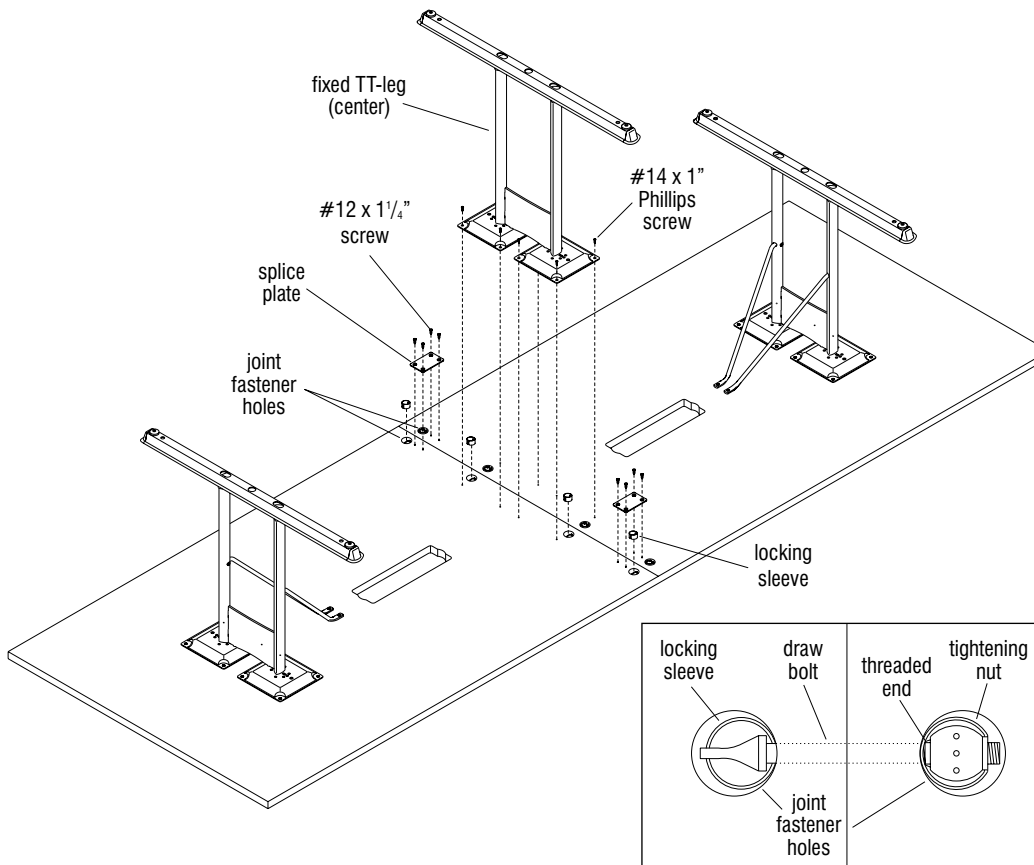

Figure 3
7. For the table top piece with just the end of the draw bolts showing in the joint fastener holes, insert the locking sleeve into the joint fastener hole and onto the draw bolt as illustrated (Detail A). Tighten the joint fastener assembly by rotating small amounts at a time to draw the table tops together, but do not tighten completely at this time. Use a  $\frac{1}{8}$ " diameter by 4" long tool or similar to rotate the tightening nut (Figure 3 & Detail A). Repeat step to install the remaining joint fastener components.
8. Once all joint fasteners are installed, flush the outer edge of each table top half and tighten all fasteners to secure. Be careful to keep table tops aligned and to not pinch the protective surface in the seam (Figure 3 & Detail A).
9. Position splice plate on the pre-drilled holes on the underside of table and secure using four  $\#12 \times \frac{3}{4}$ " screws (Figure 3). Repeat step to install additional splice plates.
10. In this particular configuration, position the center fixed TT-leg over the pre-drilled holes of both table tops and secure using eight  $\#14 \times 1$ " Phillips screws (Figure 3).